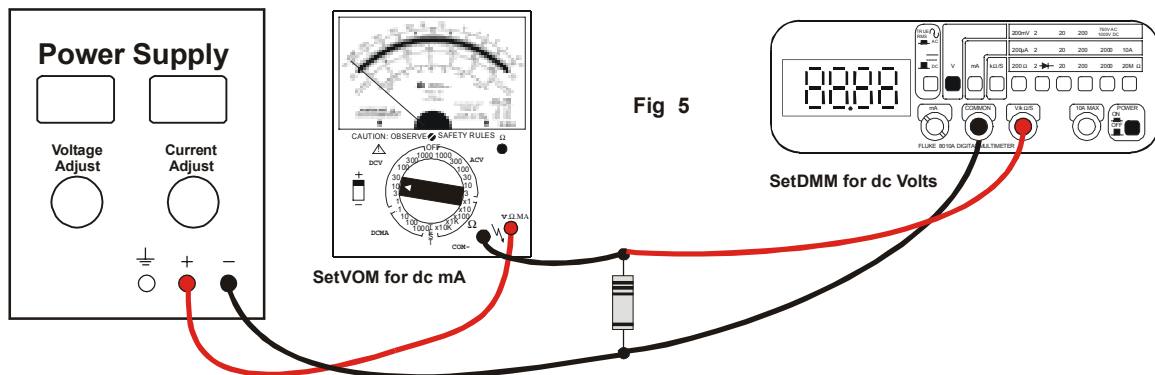
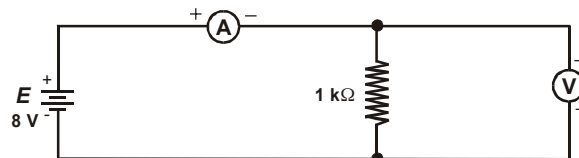

Fig 5
Fig. 6 Schematic Circuit for Fig 5
- 1) Using the **DMM** as the voltmeter and the **VOM** as the ammeter, connect the circuit shown in Figure 5. Use the 1 k $\Omega$  resistor as the resistance. Note Figure 6 shows the schematic representation of the circuit. Adjust the power supply so the resistor voltage climbs from 0 to 10 volts in 2 volt steps. In table #7 below record the **VOM**'s current level at each voltage step.